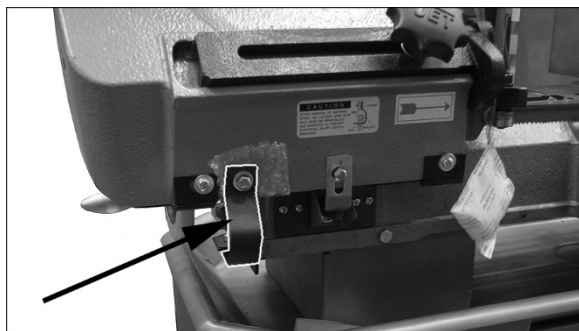

Figure 6-4: Shipping Bracket Removal
3. Remove shipping bracket (Figure 6-4). Then reinstall bottom hex nut beneath plate. Retain shipping bracket in case machine must be transported in future.